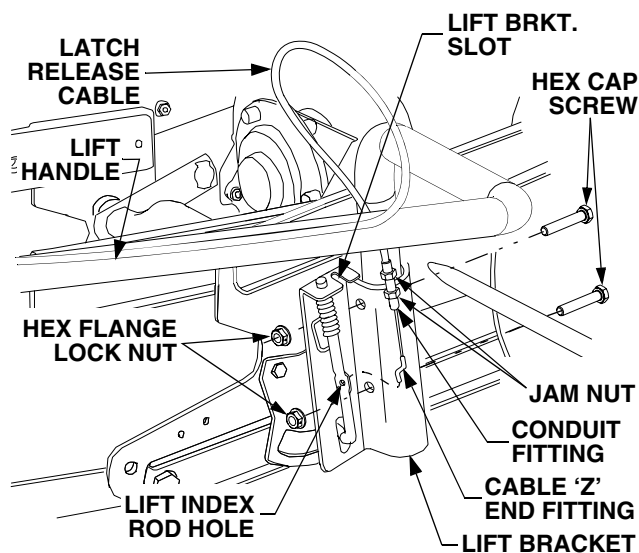

Figure 9
8. Insert the lower end of the lift handle assembly (C, Fig.1) into the lift bracket located on the *right* side of the snow thrower subframe. See Figure 9.
9. Insert the bottom of the cable 'Z' end fitting through the hole in the lift index rod. Refer to Figure 9.
10. If necessary, turn the jam nuts on the conduit fitting to create a space between the nuts. With a jam nut positioned both above and below the lift bracket, slide the conduit fitting fully into the slot of the lift bracket. Refer to Figure 9.
12. Align the holes of the lift handle and lift bracket, and secure with the two hex cap screws (6, Fig.2) and hex flange lock nuts (13, Fig.2). Refer to Figure 9.